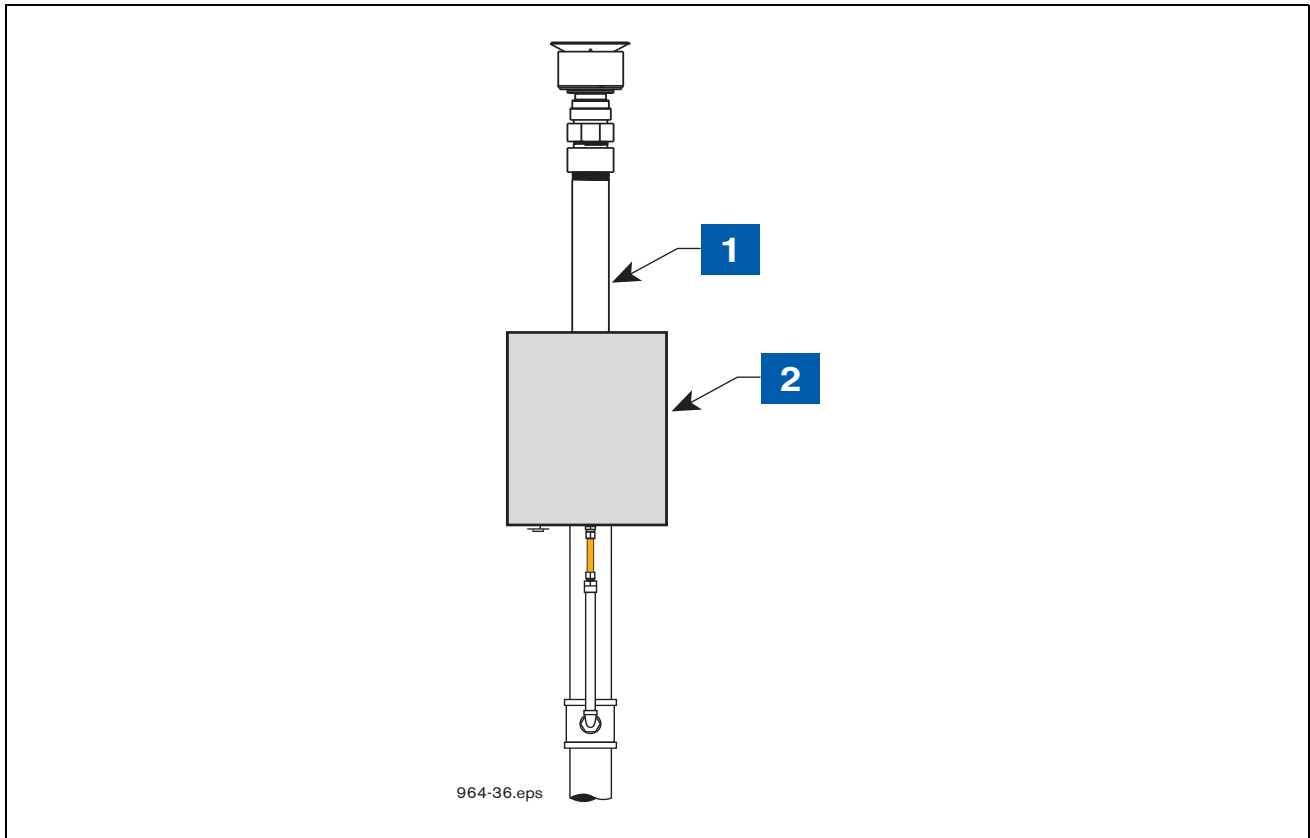

Figure 18. VRPS Mounted In Universal Enclosure On The Vent Stack
1. A Transmitter/battery pack pair must be installed with the Veeder-Root Vapor Return Pressure Sensor (VRPS) in the Universal Enclosure and mounted on the vent stack (see Figure 18).
**LEGEND FOR NUMBERED BOXES IN Figure 18**